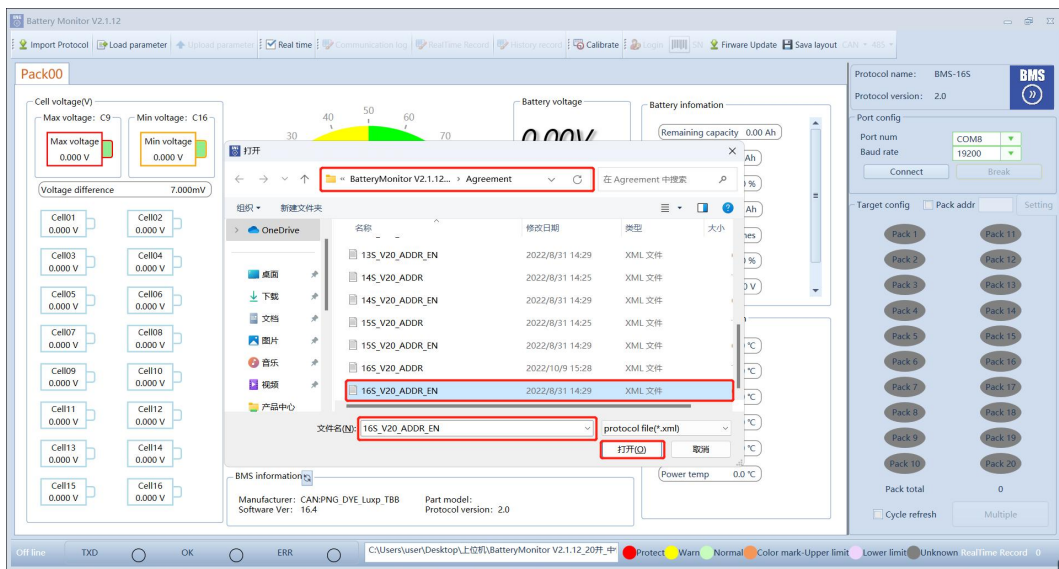

Figure 3-2
2) Select the protocol file corresponding to the string, the prefix EN corresponds to the English protocol, the prefix without EN corresponds to the English protocol (example: 16 string English protocol-----16S\_V20\_ADDR\_EN), click open, Figure 3-2